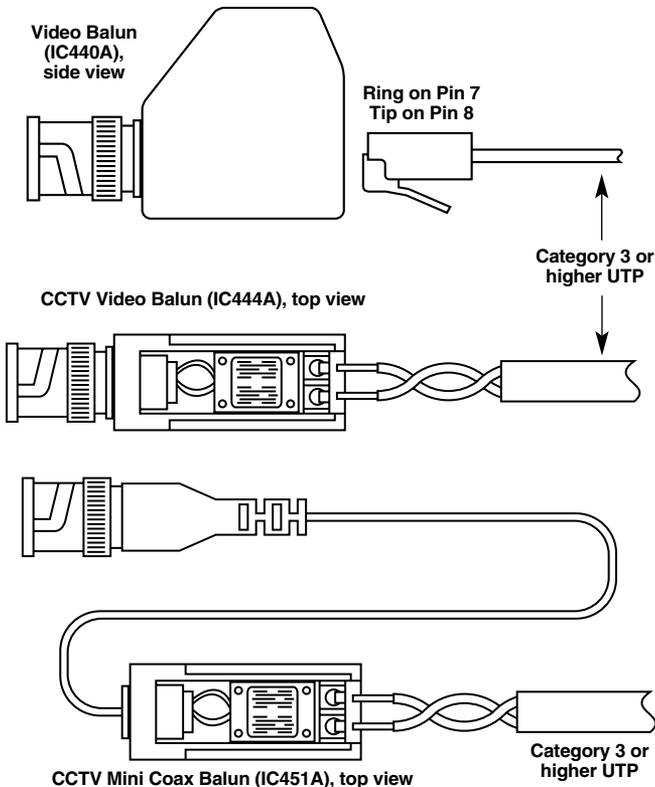

Figure 3-1. Attaching UTP cable to the balun.
- 7A. *Video Baluns (IC440A) only*: Connect one end of a UTP cable to each balun's RJ-45 modular jack, as shown in Figure 3-1. These cables must carry at least one wire pair; these wires must be on RJ-45 Pins 7 (Ring) and 8 (Tip).
- 7B. *CCTV Video Baluns or CCTV Mini Coax Baluns (IC444A or IC451A) only*: Look closely at the top of the terminal end of one of your baluns. You will notice two small holes. These are where your wires will enter the balun. Once you find the holes, carefully slide off each balun's top panel (it slides toward the terminal end). You will see an internal terminal behind each of the external terminal screws. Lay the UTP cable's twisted-pair wires in the grooves where the holes you found are; then insert one of the wires in one terminal and insert the other wire in the other terminal, as shown in Figure 3-1. (You might have to unscrew the screws slightly to do this. It doesn't matter which wire goes to which terminal, although we recommend straight-through wiring.) Tighten the screws and carefully slide the balun's top panel back on.